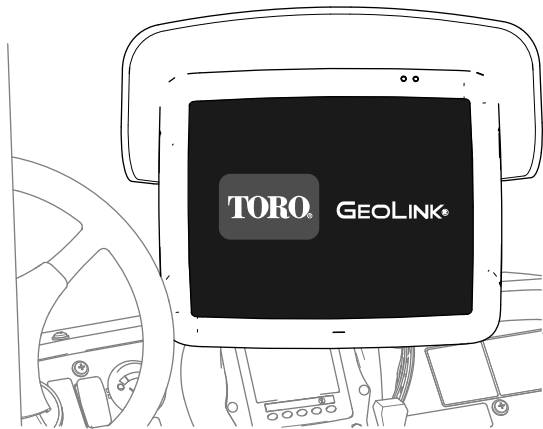

Figure 194
- Control console—displays graphics and text (Figure 194)